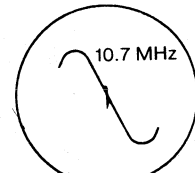

Fig. 3
| (2) FM | " | " | " | " | T4 (FM 2nd IFT) | Adjust for maximum amplitude. (Refer to fig. 3). |